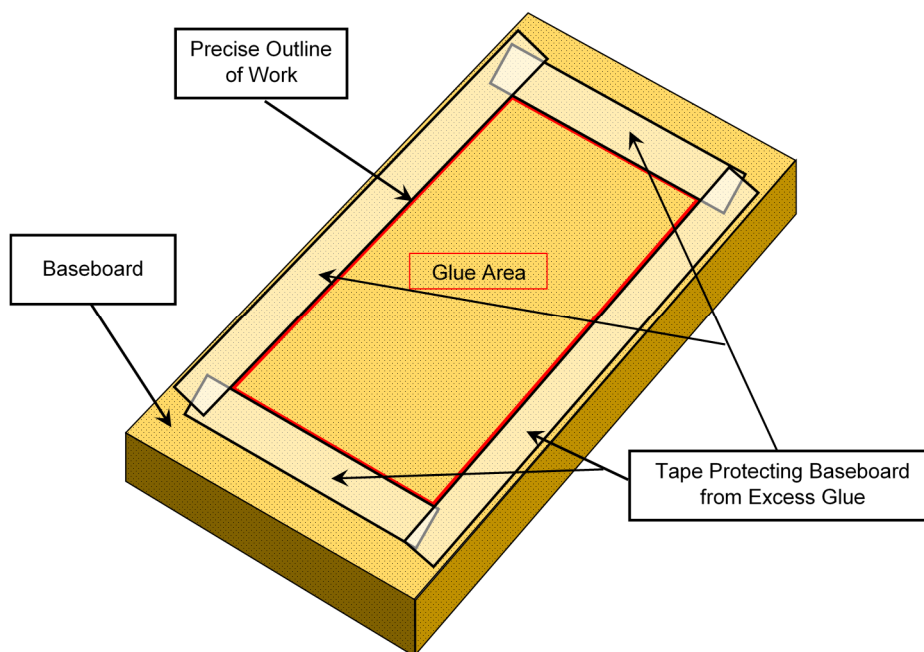

Figure 5-2: Taping the Baseboard
- 5.2.2. Place tape on the baseboard just outside the marks defining the picture placement. This will help to prevent excess glue causing problems when trimming or cleaning up for border applications. See Figure 5-2 for an illustration.